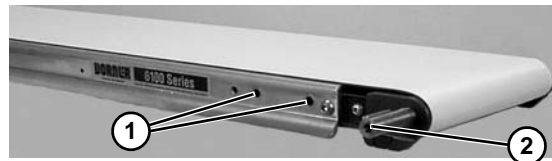

Figure 18
2. Locate drive output shaft. Remove two screws (**Figure 18, item 1**). Install key (**Figure 18, item 2**).